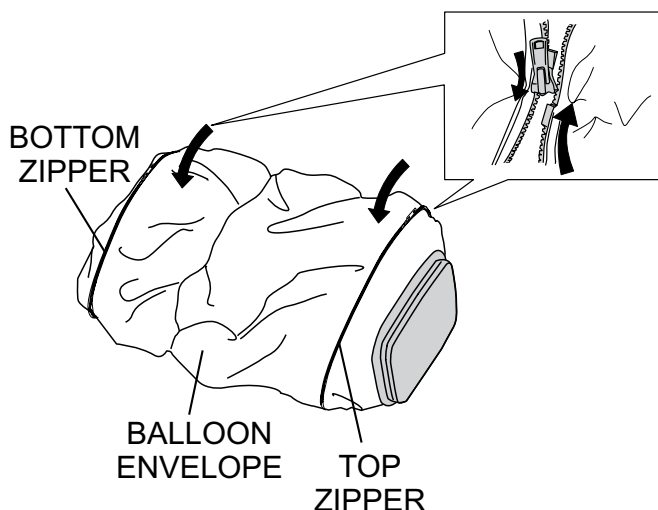

Figure 29. Zipping the Balloon Envelope
4. Zip up the zipper (Figure 29) at the top and bottom of the balloon envelope (cover).